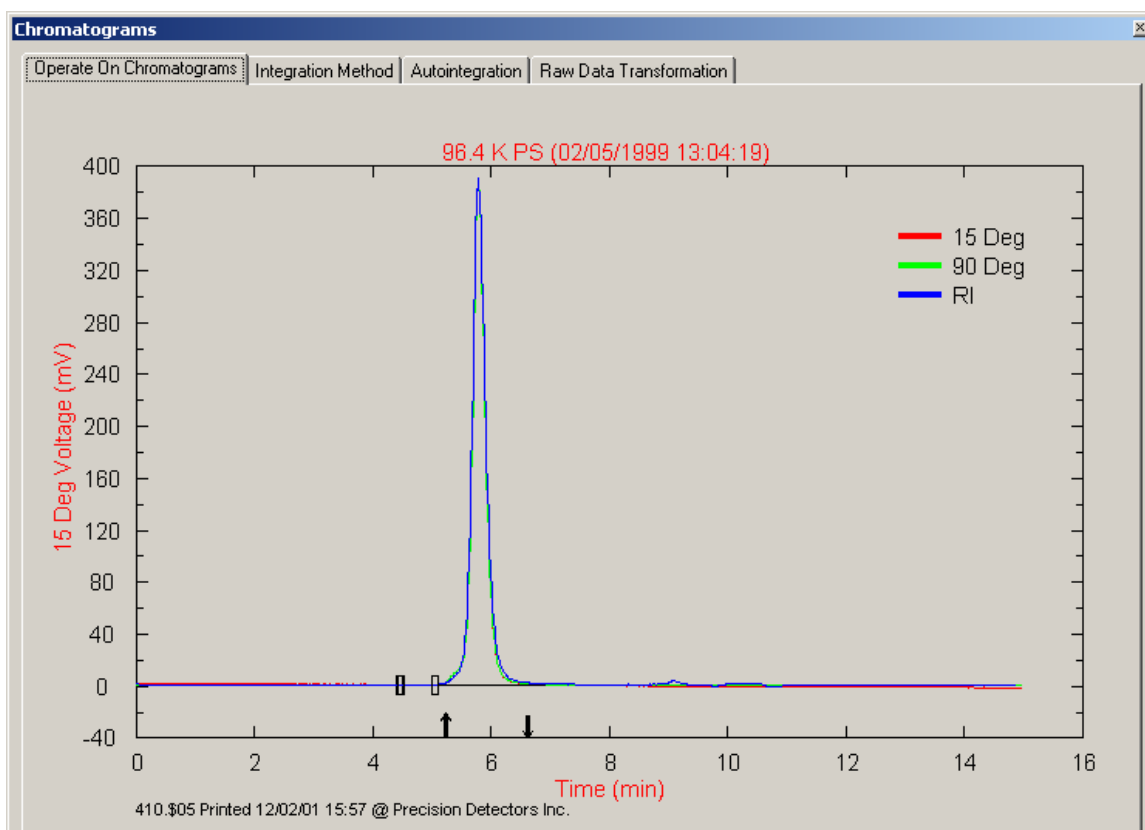

Figure 7-11: Normalized, Zoomed Display
- b) Click on the left mouse button and drag to the opposite corner, then release the mouse button. In this example, we will start at 4.0 minutes by the lower baseline and drag the mouse to 7.2 by the upper boundary. This zoom will present the display shown in Figure 7-11. (Avoid any baseline perturbations such as large negative dips near the terminal region of the chromatogram. This is more prominent with RI detectors than observed for UV.)
The arrows on the baseline indicate the region for which the area will be determined (e.g. between 9.2 and 9.8 minutes on Figure 7-11). You may also move previously determined baseline arrows by holding down the Ctrl button and clicking the arrow to be moved. Hold the left mouse button down and drag the arrow to where you want to relocate it.
In Setup Calculation/Options select RI/Light Scattering and the calculation type. To determine the Inter-detector volume, access the *Determine Cal Constants* tab of the *Setup Calculation* dialog box (Figure 7-11).